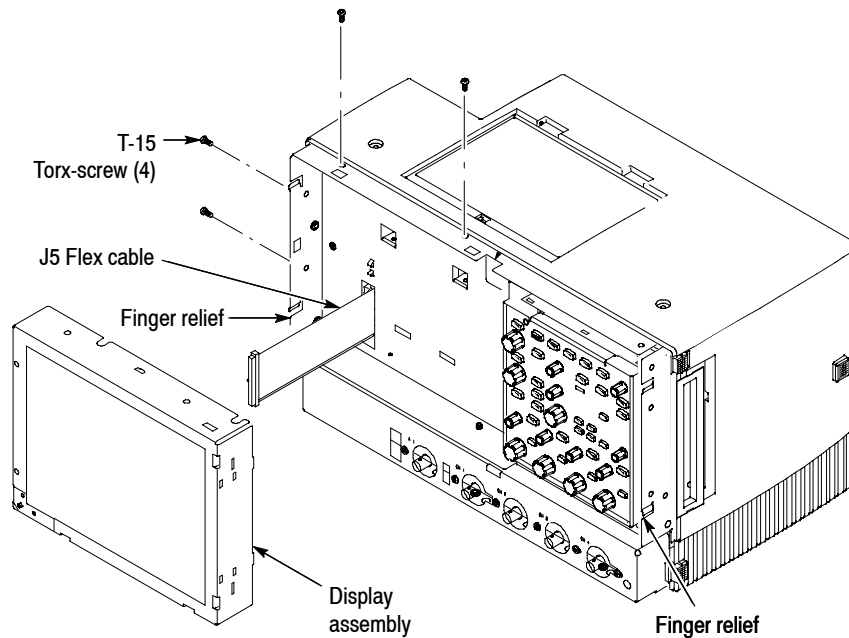

Figure 3: Display assembly removal
1. Locate the Display assembly. See Figure 3 on page 6.
3. Remove the Display assembly. See Figure 3.